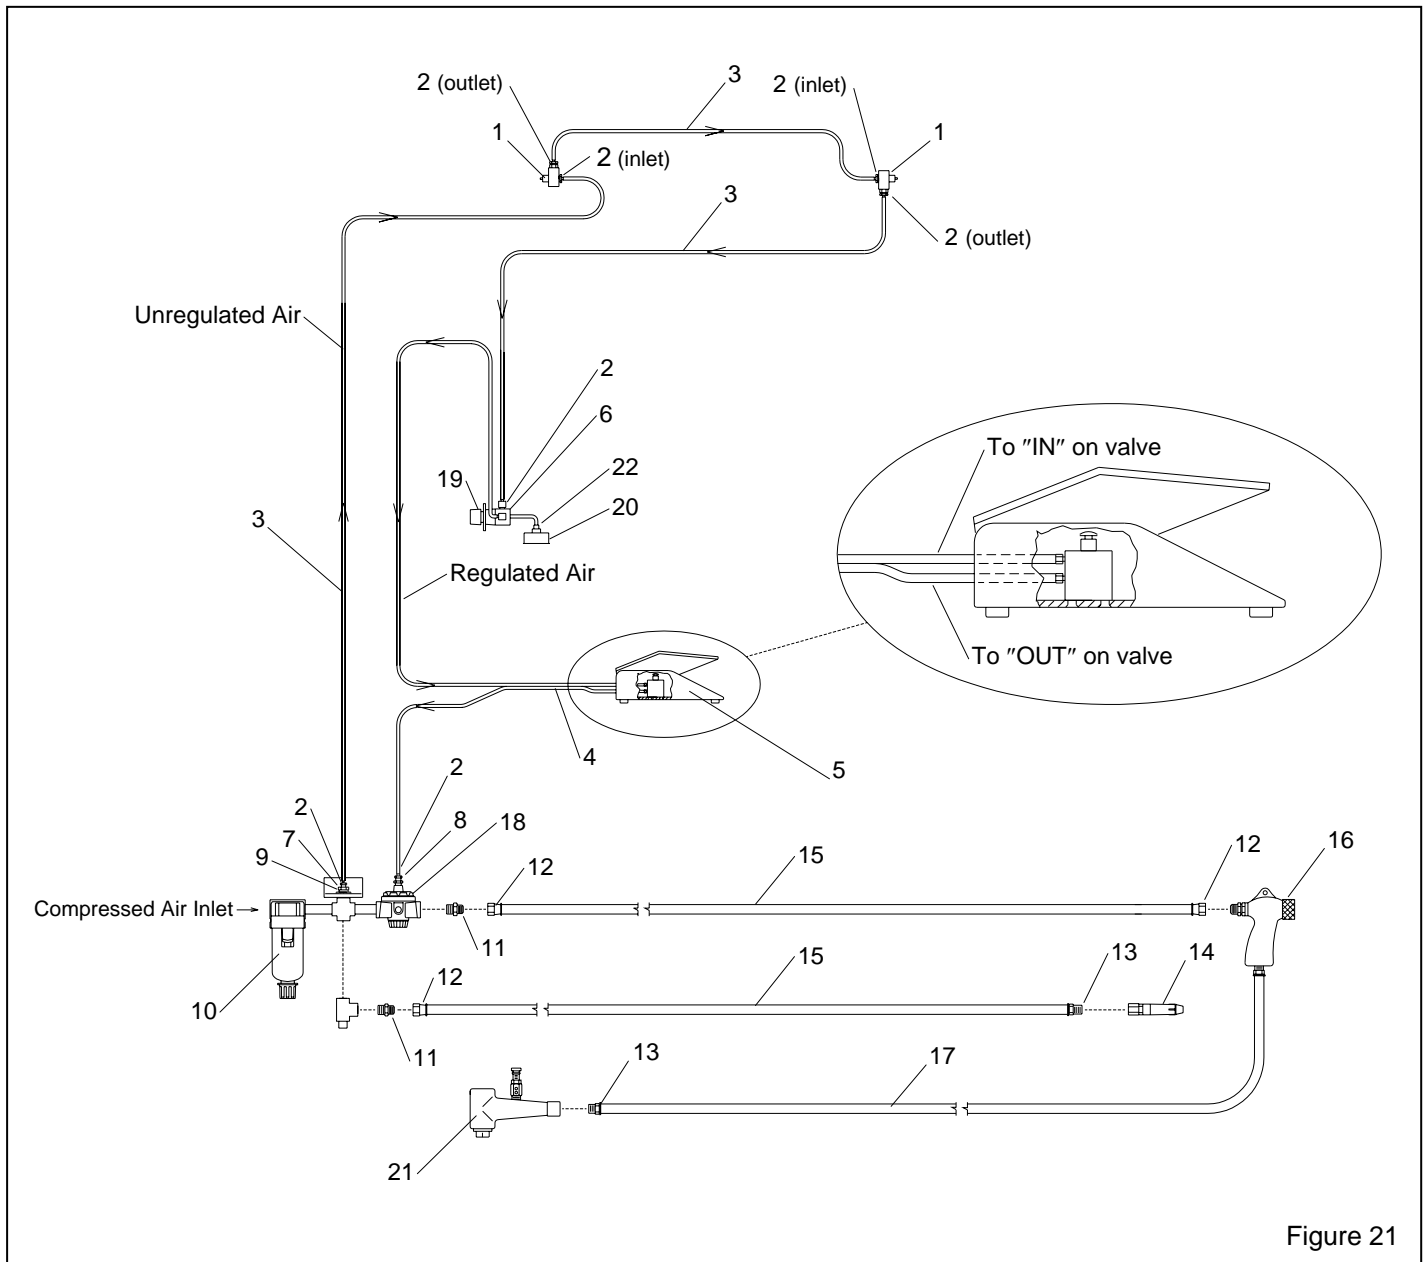

Figure 21
8.7 Cabinet Plumbing Assembly, Figure 21